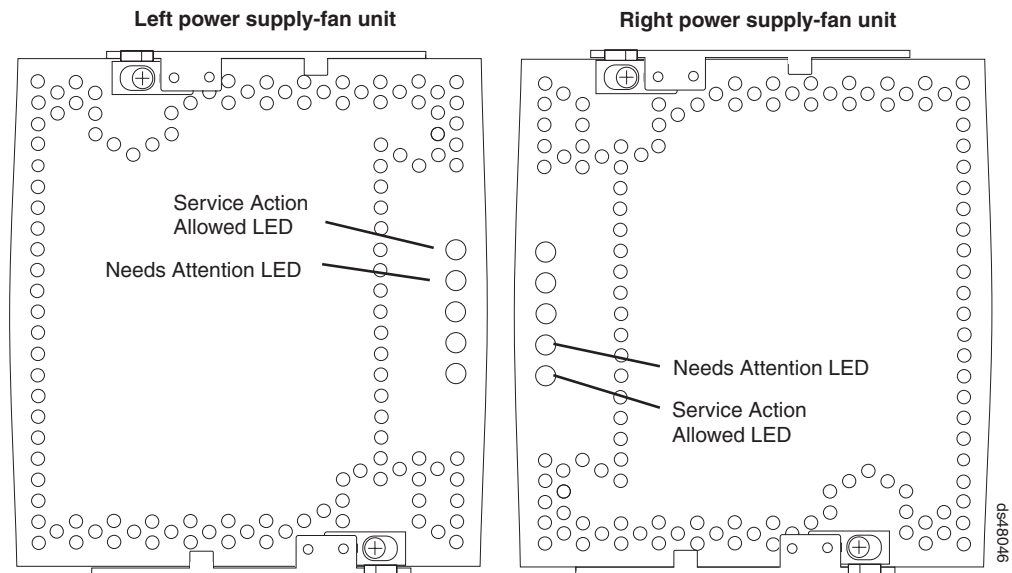

Figure 76. Power supply-fan Needs Attention LEDs
5. Check the Needs Attention LED on each power supply-fan. (Figure 76 shows the location of the Needs Attention LEDs.)